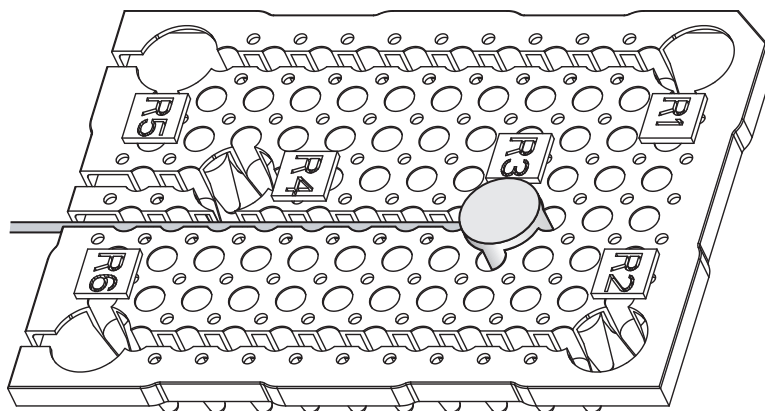

Figure 7 The temperature verification system for GeneAmp® 9700 with a dual 96-well sample block module (right frame shown)
**Assembly** Figure 7 show the right frame of a properly assembled temperature verification system. Note that the probe wire is threaded through the channel to prevent damage to the wire when you close the thermal cycler heated cover.
5. Thread the probe wire through the channel in the dual 96-well temperature verification plate to prevent damage to the probe and lead wires (see Figure 7 on page 36).